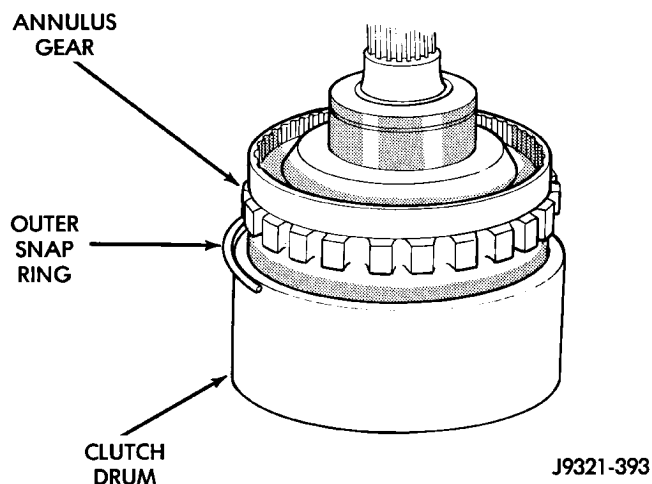

Fig. 223 Clutch Drum And Outer Retaining Ring Installation
(4) Align and install clutch drum on annulus gear (Fig. 223). Be sure drum is engaged in annulus gear lugs.
(5) Install clutch drum outer retaining ring (Fig. 223).